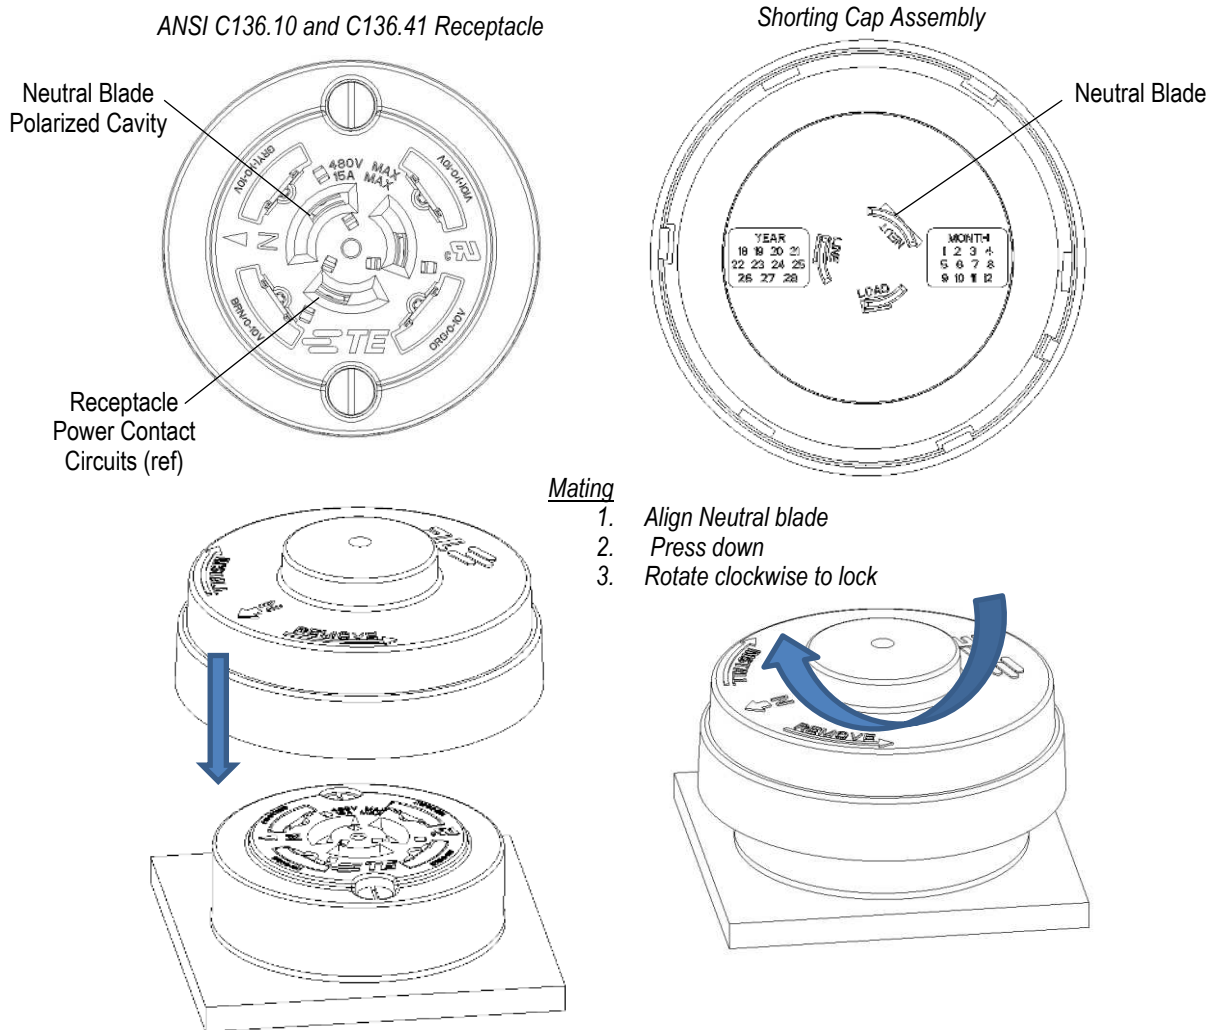

Figure 2
3. SHORTING CAP TO RECEPTACLE MATING AND UN-MATING (Figure 2)